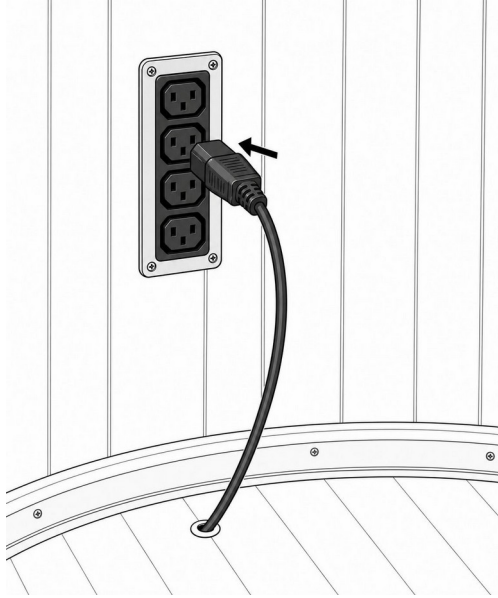

Figure 8. The Floor Panel power cable plugged into the three-socket outlet on the Back Panel (B).
- Connect the black power cable from the Floor Panel to the matching socket in the three-socket outlet on the interior of the Back Panel (B), near the floor (Figure 8). Push until the connector is fully seated.